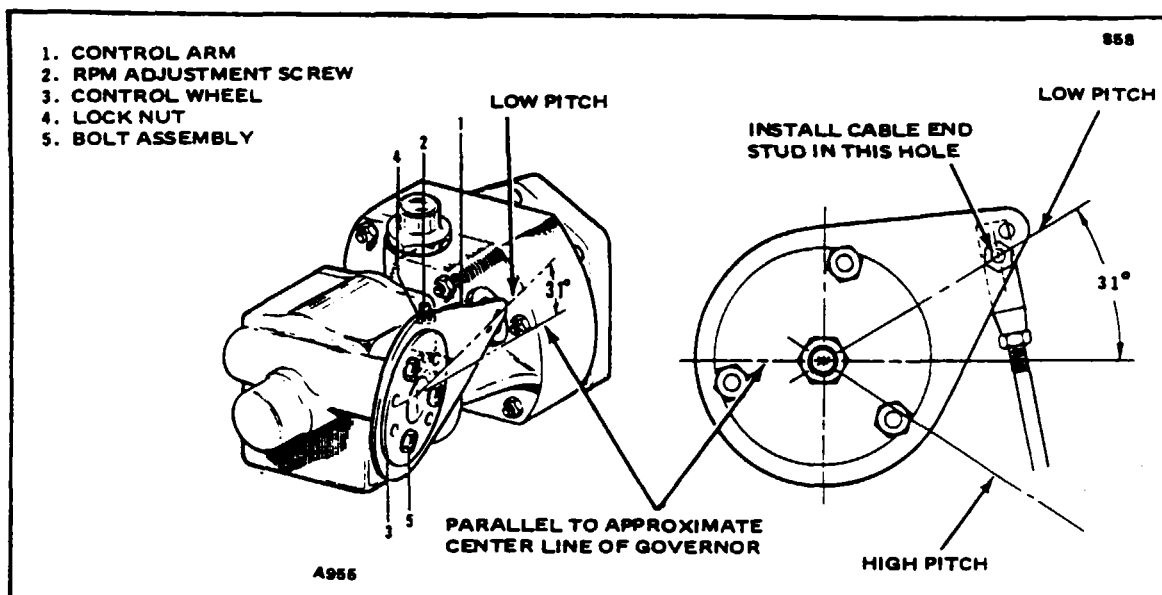

Figure 8A-3. Propeller Governor
8A-11. RIGGING AND ADJUSTMENT OF PROPELLER GOVERNOR. (Refer to Figure 8A-3.)
1. Insure that the governor control arm is located approximately as shown on figure 8A-3.
c. To check high RPM, low pitch setting, move the propeller control all the way forward. At this position the governor speed control arm (1) should be against the high RPM fine adjusting screw (2). With the throttle full forward, observe engine RPM, which should be 2700 RPM with high RPM properly adjusted.